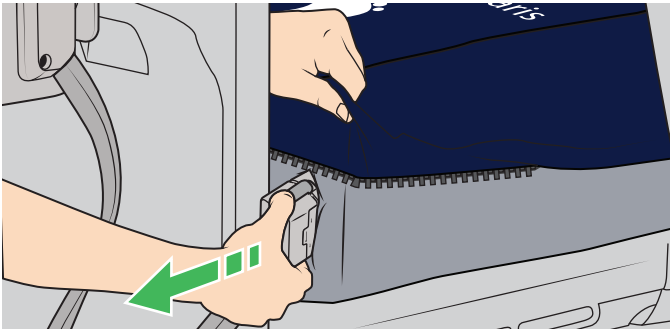

Figure 20
2. Firmly squeeze the two buttons on the top and bottom of the pump connector and pull it away from the mattress connector. See Figure 20.